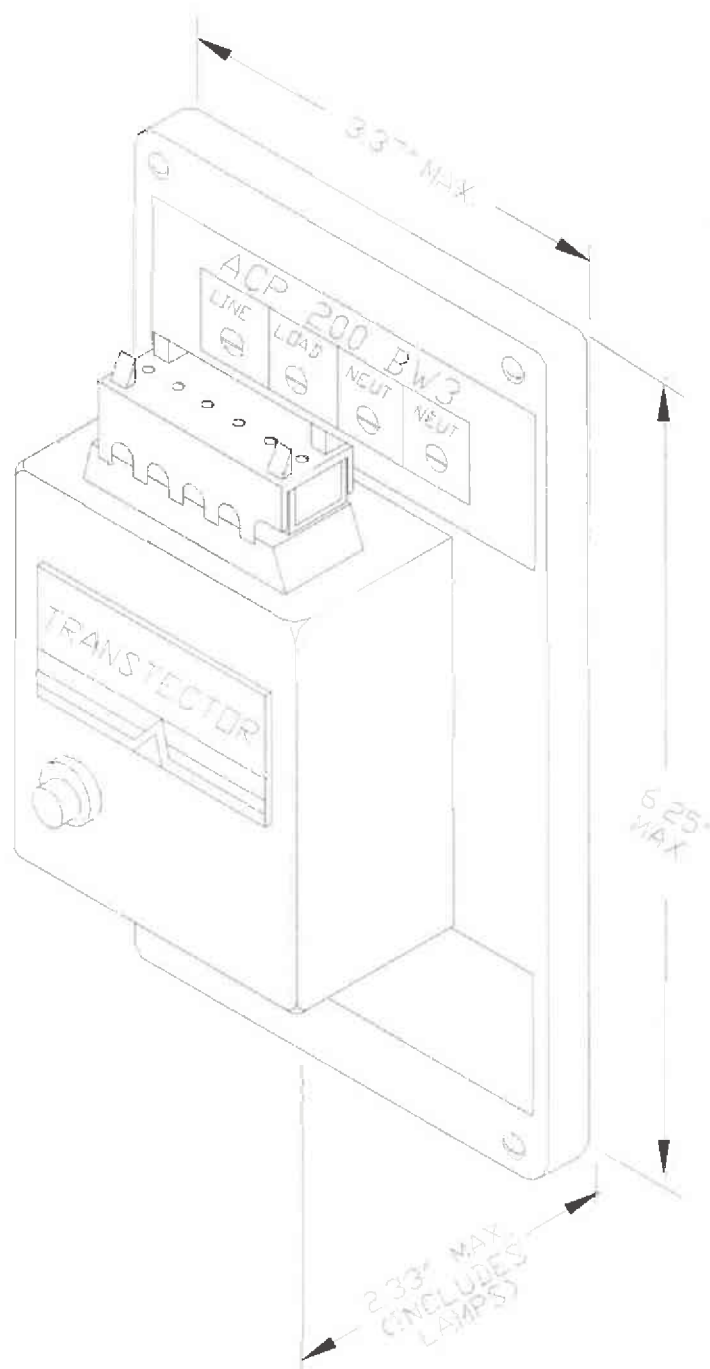

FIGURE 1
5.1.1. **Enclosure Description:** The suppressor is enclosed within a rigid plastic case made from UL recognized plastic. The enclosure has the physical measurements shown in Fig. 1.